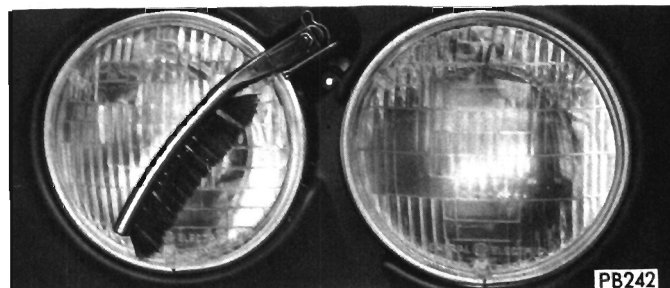

Fig. 2 - Headlamp Washers - Brush in Motion
(1) Insert torsion bar in motor and position clips on bar. The torsion bar and the hole in the motor are rectangular and can be assembled only one way.
(2) Position motor on motor mounting bracket and install mounting screws. Verify that the motor is in the halfway open position (Fig. 2). Tighten attaching screws to 95 inch pounds, plus or minus 20 inch pounds.
(3) Position motor mounting bracket on vertical lock support and tighten attaching bolts to 220 inch pounds (Imperial and Fury only).
(4) Position and fully seat torsion bar in slotted areas of cranks. Compress clips and position over cranks and torsion bar.
(5) Connect motor to harness and connect battery ground strap.
(6) Test operation of doors.